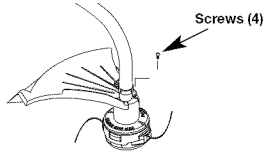

Fig. 2
- Push the cutting attachment shield down to the top of the cutting attachment assembly and then rotate the cutting attachment shield until the screw holes align and the guard fits into the recessed pocket (Fig. 2).
- Install the screws with a Phillips screwdriver (Fig. 2).